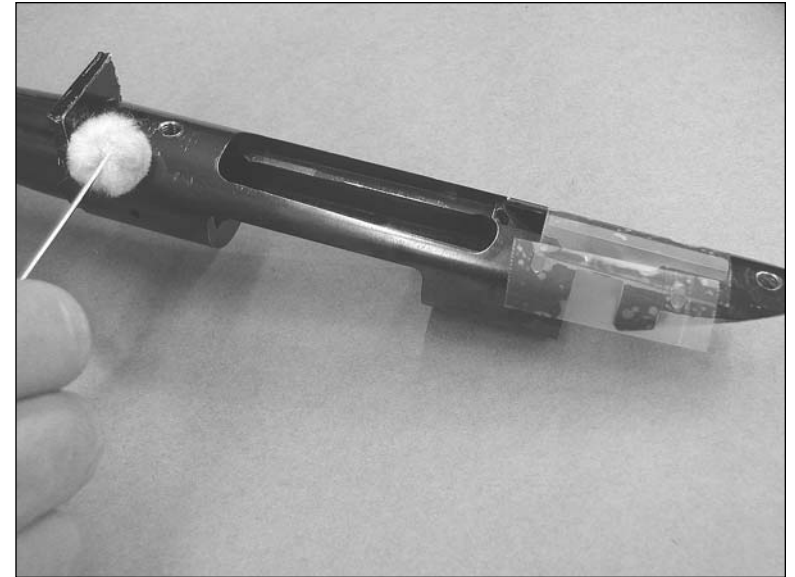

Figure 10C: Apply Release Agent liberally to all surfaces of the barreled action, below the stock line and
4. Once the holes are blocked off and the recoil lug taped, the Release Agent must be applied. This is a critical step. Since Bedrock™ provides an extremely strong adhesive bond, Release Agent must be applied to all areas where Bedrock™ will contact the metal components. Apply the Release Agent well above the stock line. (See Figure 10C). By the same token, you want Bedrock™ to bond to the stock, so do not, under any circumstances, apply Release Agent to any portion of the stock.